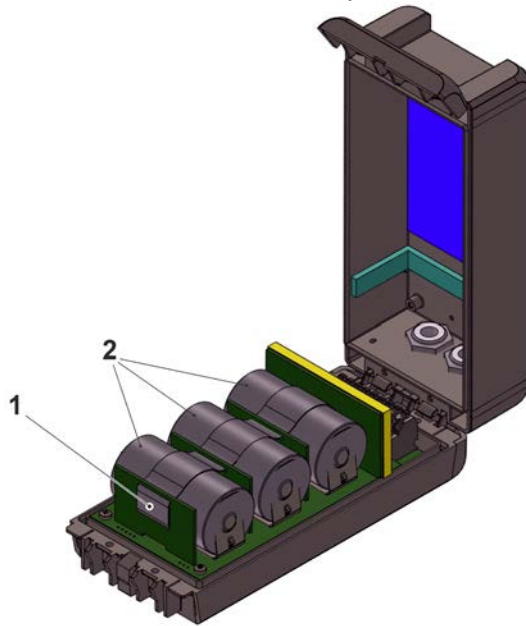

Fig. 48-1 Battery Replacement
2. Loosen the eyelet strap (Fig. 48-1 Pos. 1) to secure the batteries at the top and, if necessary, unthread it to remove the batteries (Fig. 48-1 Pos. 2).
3. Loosen the Velcro strap (not shown) for securing the battery and remove the battery (Fig. 48-1 Pos. 3).
4. Insert the new battery between the separating wall (Fig. 48-1 Pos. 2) and the plastic plug (Fig. 48-1 Pos. 4) (this serves to secure the battery against slipping).